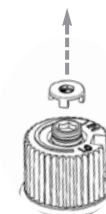

Fig.1
- 14) Remove the black protection cap by hand from the hi-low knob (Fig.1).